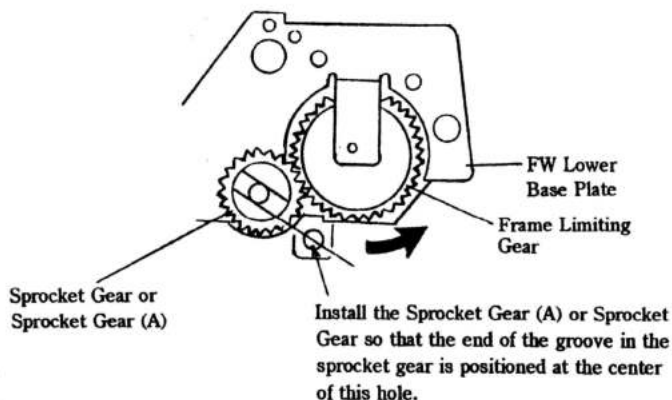

Fig. 66
- 2) Install the Sprocket Gear (A) (17436910) so that the end of the groove is positioned at the center of the screw hole in the FW Upper Base Plate.
- 3) When the Sprocket Gear (A) can not be installed in the position as shown in Fig. 66, install it in the 180 - degree turned position. If the Sprocket Gear (A) can not be installed even in the 180 - degree turned position, replace and install the Sprocket Gear (17437010). If even the Sprocket Gear can not be installed in the position as shown in Fig. 66, install it in the 180 - degree Qturned position.